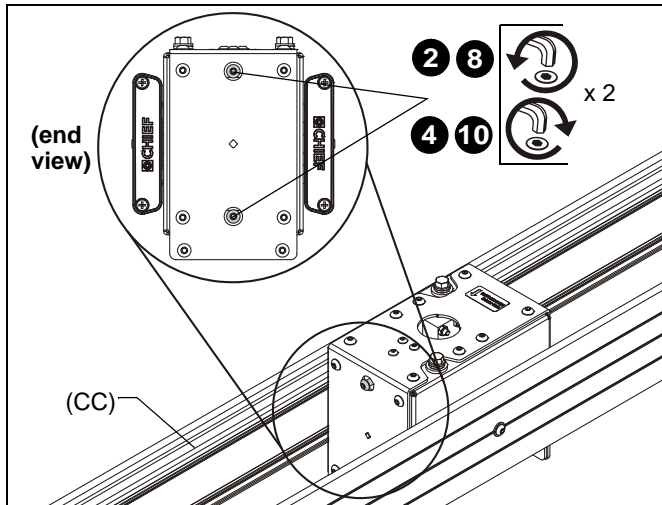
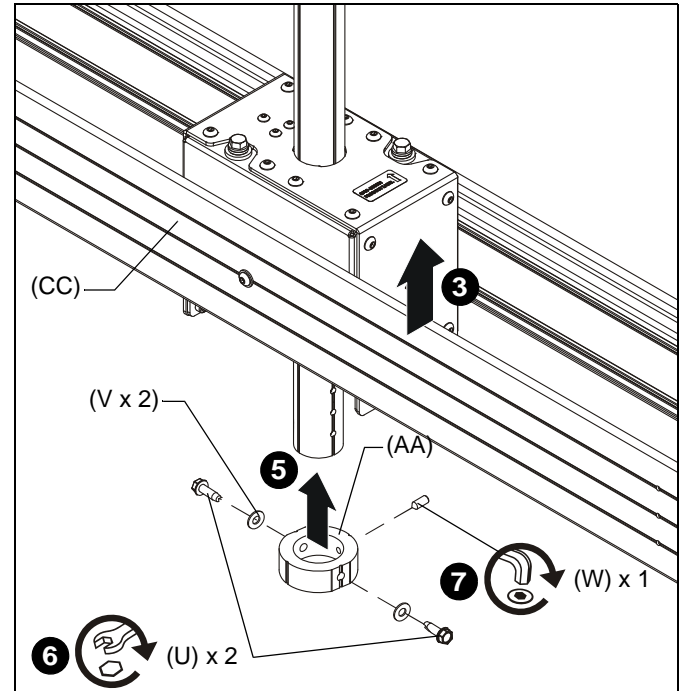

Figure 3
Figure 4
2. Loosen two 5/16 x 3-1/2" button head cap screws on end of housing until they no longer extend into the extension column area inside housing, but do NOT remove the screws completely. (See Figure 3)
3. Slide ceiling mount (CC) up from below onto installed column (not included). (See Figure 4)
4. Tighten two button head screws loosened in Step 2. (See Figure 3)
5. Slide bottom stop collar (AA) onto installed column, lining up holes in collar with holes in column.
6. Install two 5/16" x 1" self-tapping screws (U) through two 5/16" flat washers (V), bottom stop collar (AA), and into installed column. (See Figure 4)
7. Install and tighten 5/16" x 3/4" set screw (W) into bottom stop collar (AA). (See Figure 4)
8. Loosen two button head screws tightened in Step 4, and slide ceiling mount down extension column until it rests on the bottom stop collar (AA). (See Figure 4)
10. Re tighten two button head screws against column. (See Figure 3)